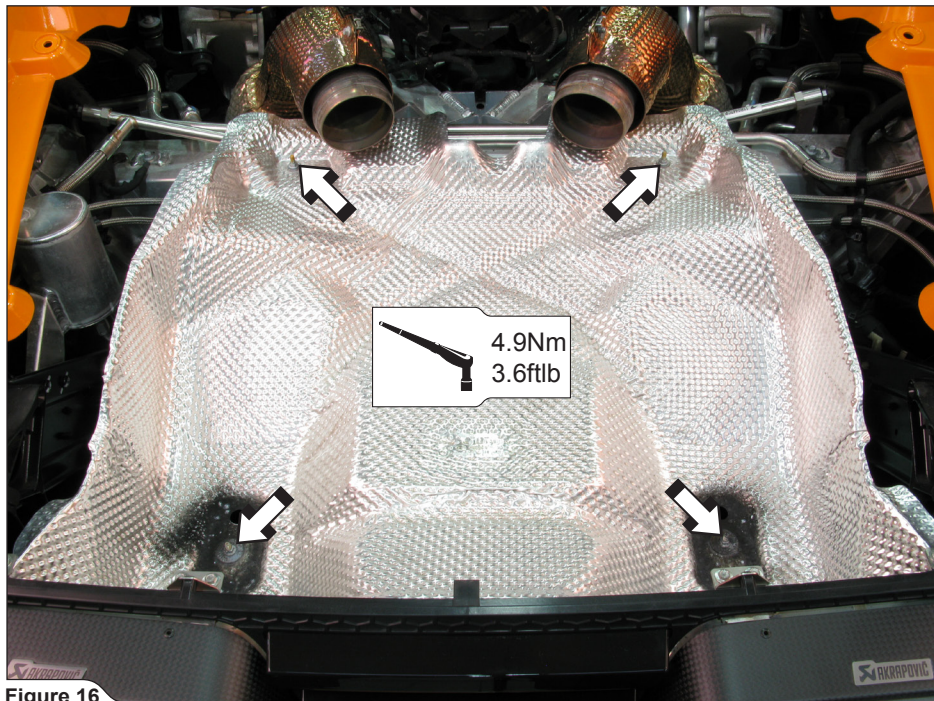

Figure 16
6. Reinstall the he lower heat shield (**Figure 16**).